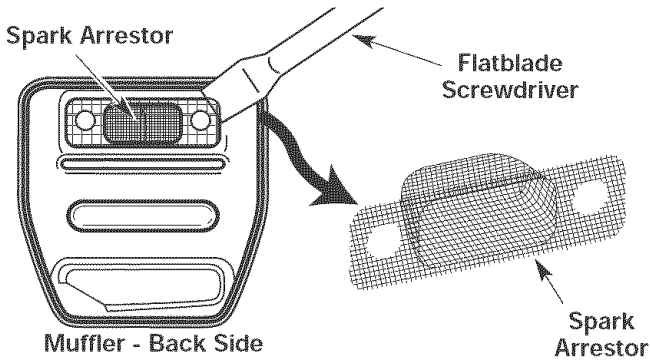

Fig. 17
4. Using a small flatblade screwdriver, carefully pry up the spark arrestor from the recessed hole (Fig. 17). Remove the spark arrestor from the muffler.
5. Clean the spark arrestor with a wire brush. Replace it if it is damaged or if it can't be cleaned thoroughly (Fig. 17).